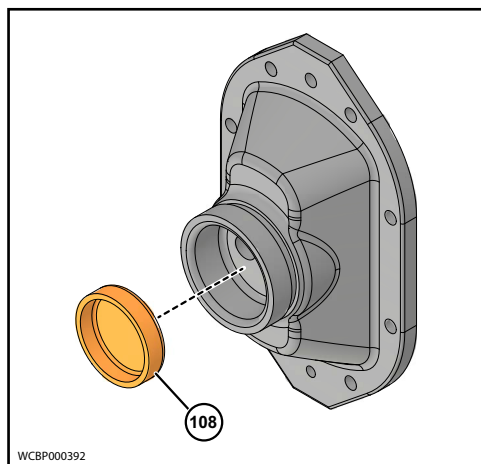

Figure 98 - Install Rubber Diaphragm
1. Install the Rubber Diaphragm (108) into the Cover Port, as shown in Figure 98.